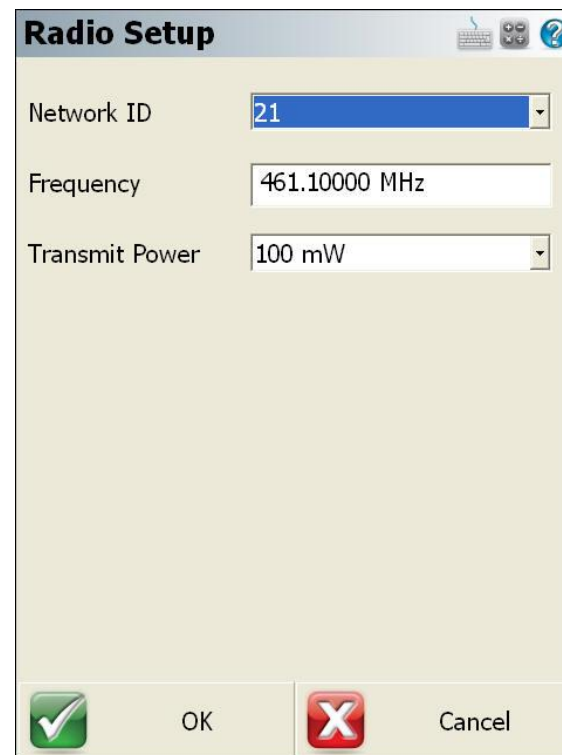

Figure 9: Radio Setup
82. On the **Radio Setup** dialog (refer to Figure 9), select the **Network ID**, type a frequency in the **Frequency** text box (the Base and Rover frequencies and Network ID's must match), and select the **Transmit Power**. On the Rover, set the Transmit Power to 100mW unless the base requires the rover position for network corrections (i.e. a periodic GGA message). In this scenario, set the rover to match the base power out.